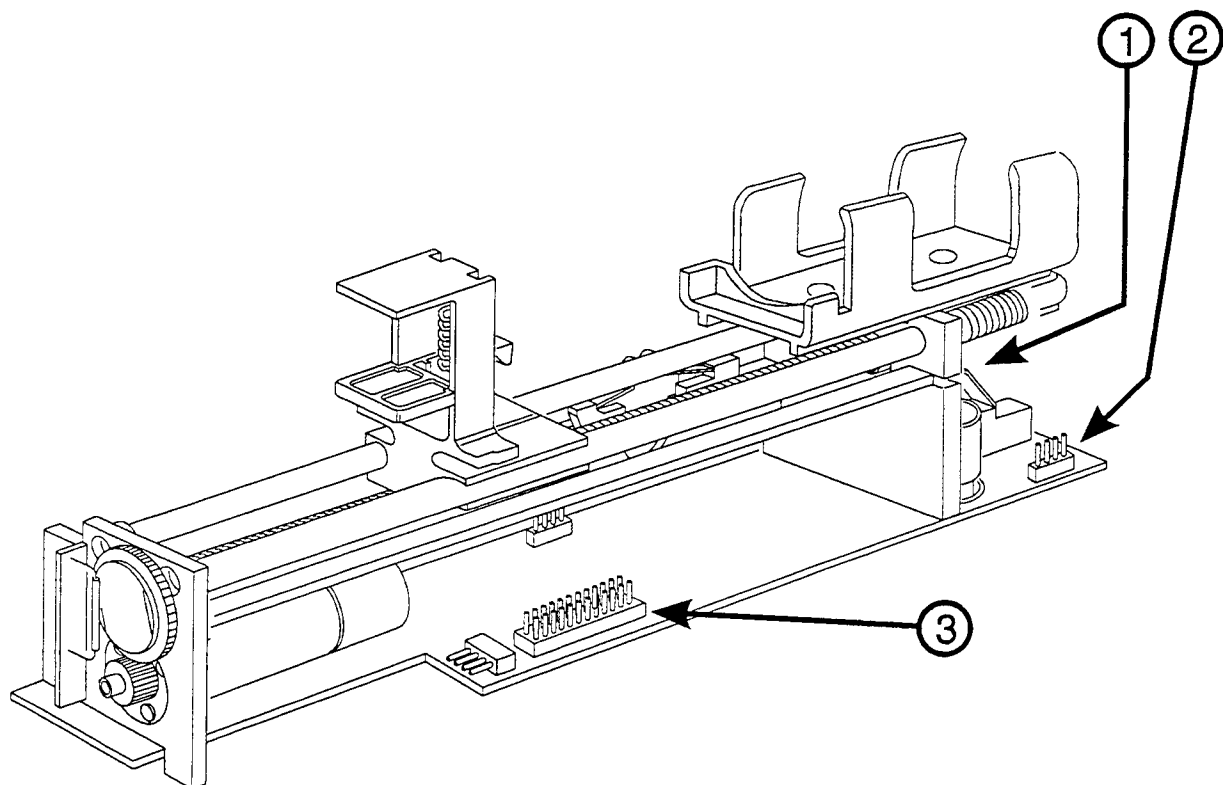

Figure 7-4 Mechanism Assembly (Removed From Case)
Locate and remove cable connection to J3 (1). J3 not shown in Figure 7-4, connection is behind the microswitch. Disconnect cable from J1 (2). Connection identifications are also noted on the board.